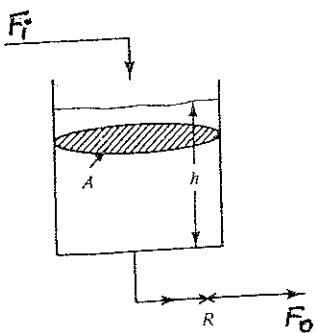

FIGURE 2
2. For Fig 2, Find the transfer function of the given process in terms of deviation variable. And also identify what is the order of the given process. [5M]